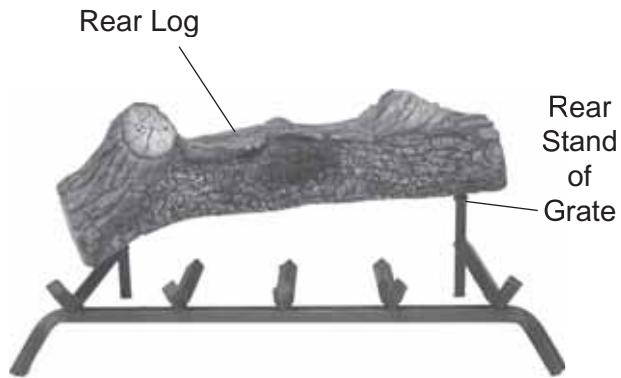

Figure 131 - Placing Rear Log #1 on Back Grade
2. Place Rear Log #1 on back of grate. Left side should fit on grate in front of rear stand. Right side goes on the rear stand of grate. *See Figure 131.*